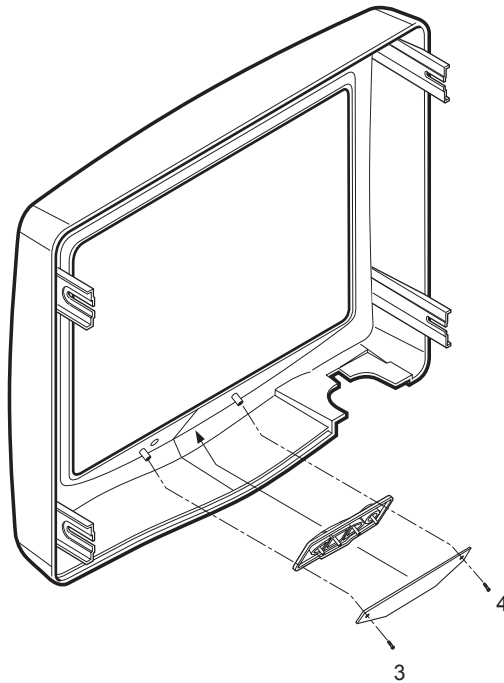

Figure 8-42 Removing Monitor S/W Assy
- 4.) Remove the Monitor S/W Assy. Refer to Figure 8-42 on page 8-8 .